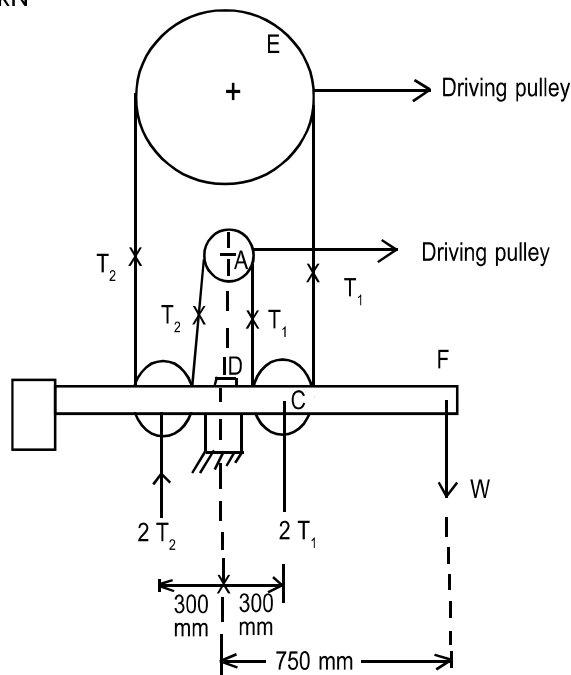

Fig. 1
8. (a) The essential features of a transmission dynamometer are shown in **figure 1**. A is driving pulley which runs at 600 rpm. B and C are jockey pulleys mounted on a horizontal beam pivoted at D, about which point the complete beam is balanced when at rest. E is the driving pulley and all portions of the belt between the pulleys are vertical. A, B and C are each of 300 mm diameter and the thickness and weight of the belt are neglected. The length DF is 750mm. Find—